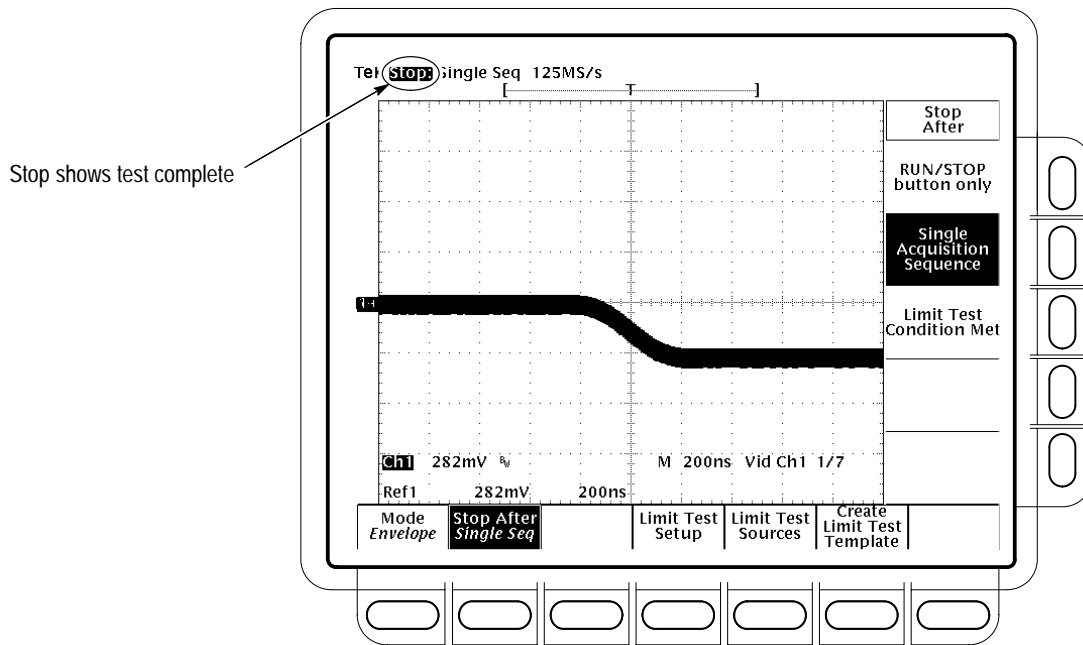

Figure 1–27: Jitter Test When Completed
- v. CONFIRM that the oscilloscope successfully makes 100 acquisitions. If not successful, the oscilloscope bell will ring. When the word **Run** in the top left corner of the display changes to **STOP**, the test is complete. See Figure 1–27.